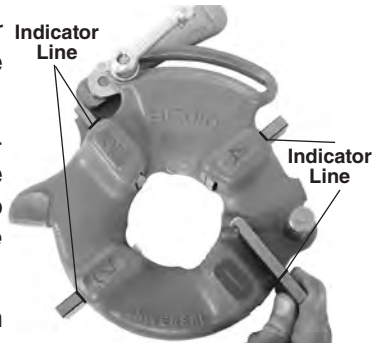

Figure 6 – Inserting Dies
4. Lift tongue of washer out of slot in size bar. Move washer to end of slot (Figure 6).
6. Insert appropriate dies into the die head, numbered edge up until the indicator line is flush with the edge of the die head (see Figure 6). Numbers on the dies must correspond with those on the die head slots. Always change dies as sets – do not mix dies from different sets.